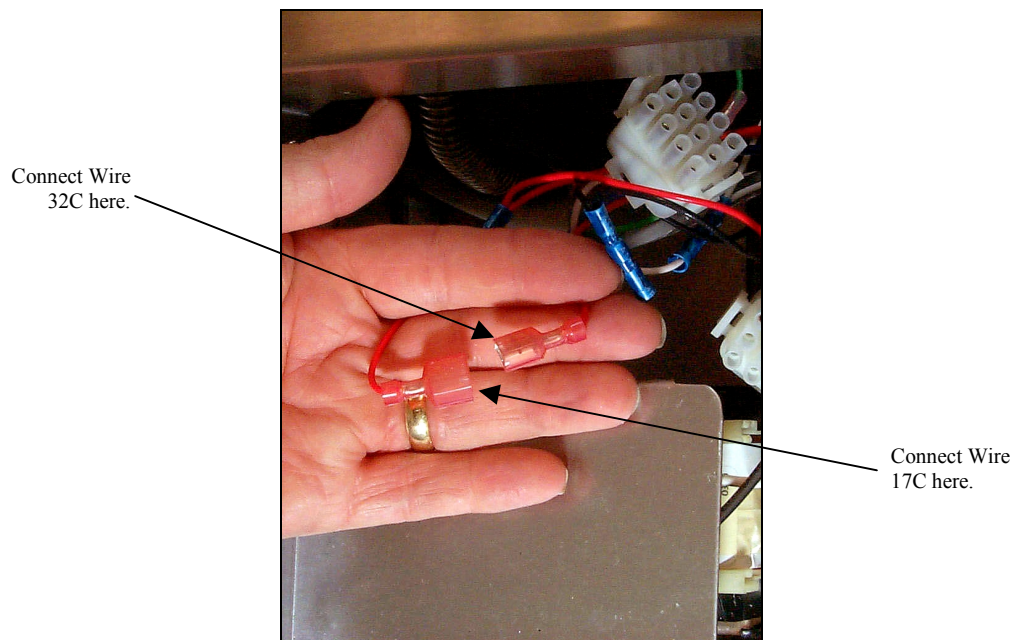

Figure 4
6. Open the connection and connect the wires from the Air Switch as shown in Figure 4.